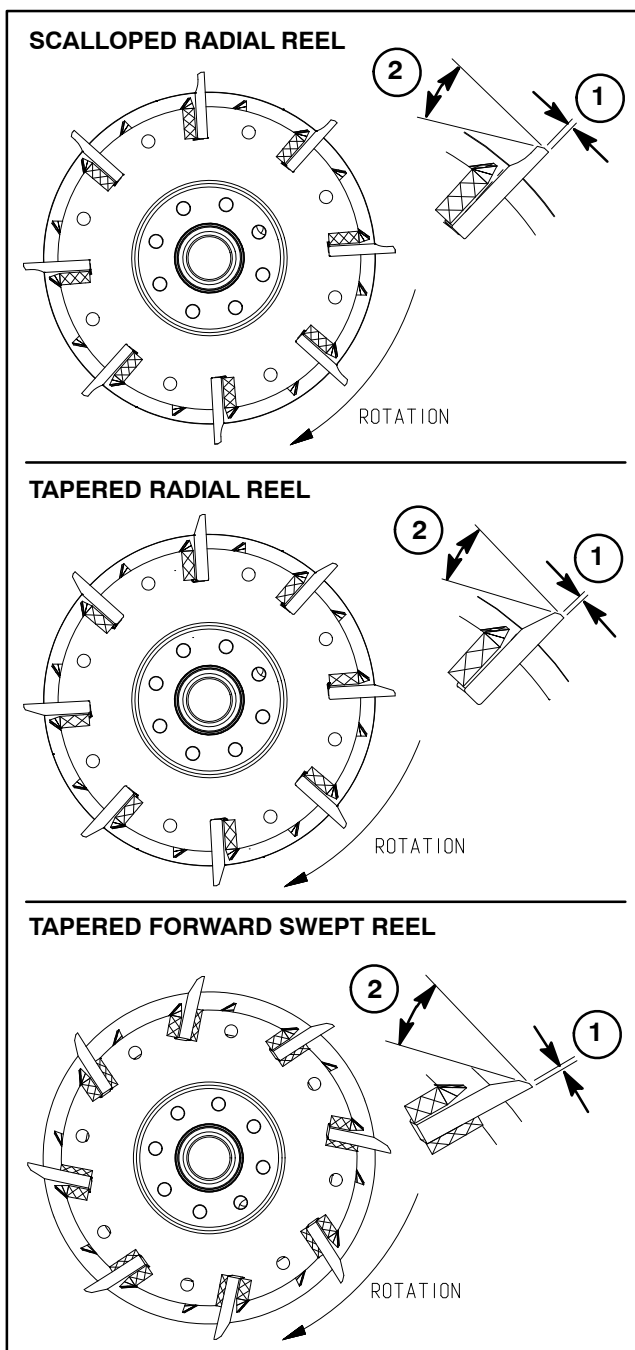

Figure 42
Three (3) types of reel designs are used in Reelmaster cutting units: scalloped radial reel, tapered radial reel and tapered forward swept reel (Fig. 42). The radial reel designs have blades that are placed in line with the center of the reel shaft. The rear of the blades either have a scalloped relief or a tapered relief. The forward swept reel have blades that have a slight forward slant. The rear of the forward swept reel blades have a tapered relief. Before grinding a reel, identify the type of reel design to make sure that grinding is correctly done.